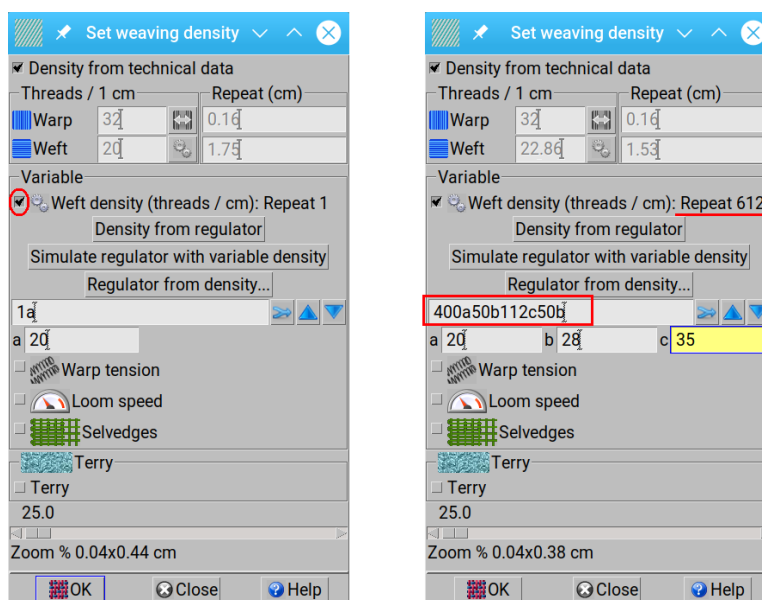

Figure 342: Setting variable weaving density
Then in the text field we type the variable density pattern. In Figure 342, the density pattern means, that 400 picks have density a, which we set to 25 picks per centimeter, then 50 picks are woven at density b, which we set to 28 wefts per centimeter, then 112 wefts are woven at density c, which we set to 34 picks per centimeter, and then again 50 picks are woven at density b. The program also calculates the total number of wefts in the variable weft density repeat (612), and the average weft density (27 per centimeter).